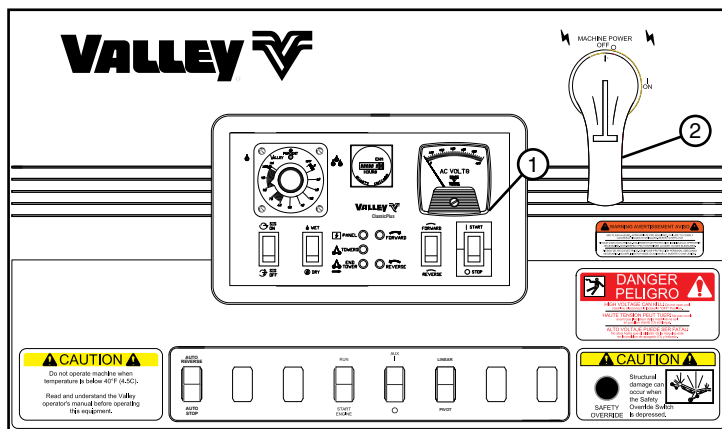

Figure 76-2 1. START-STOP Switch
1. Press the START-STOP switch to the STOP position. See Figure 76-2.
2. Turn the main disconnect switch to the OFF position. See Figure 76-2.